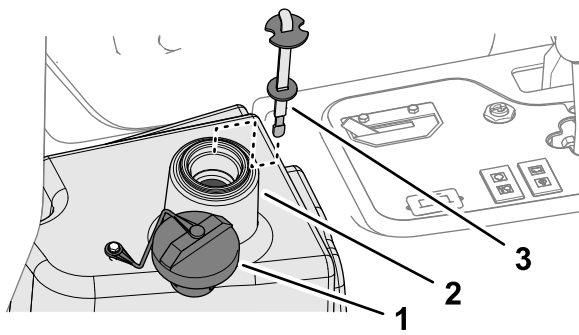

Figure 82
2. Clean the area around the filler neck and cap of the hydraulic-fluid tank (Figure 82) and remove the cap.